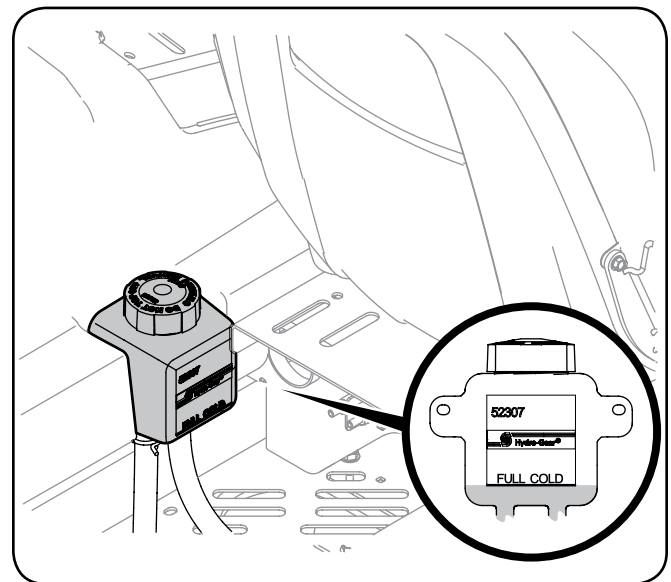

Figure 30
1. Pivot the operator's seat forward and clean the reservoir cap and the area around the cap to prevent debris from contaminating the transmission oil. See Figure 30.
2. Turn the reservoir cap counterclockwise to re-move, then check the oil level in the reservoir. Oil should be visible at the bottom of the cup, but the oil level must NOT be above the "FULL COLD" line. See Figure 30. DO NOT FILL THE RESERVOIR.